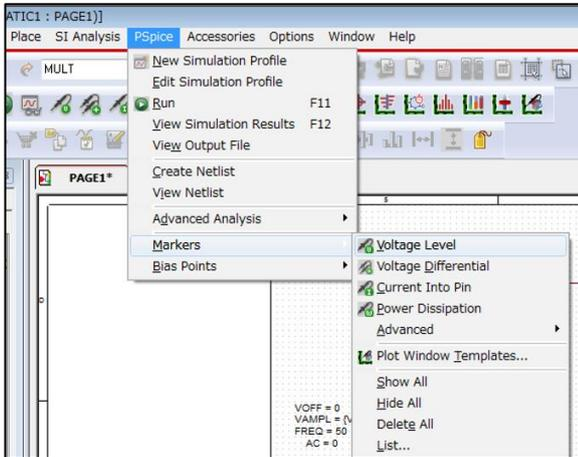

Fig. 5.8 Selecting a marker type
1. From the menu bar of OrCAD® Capture, select **PSpice - Markers** and then a type of marker as shown in Fig. 5.8.